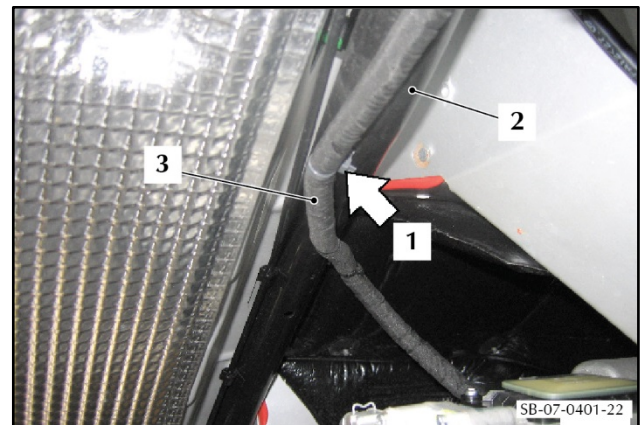

Figure 24
38. Use the transmission lift to lower the transaxle sufficiently to get access to the clip (1) that attaches the electrical harness (2) to the subframe (3). Release the clip (1) from the subframe (2) (refer to Figure 24).